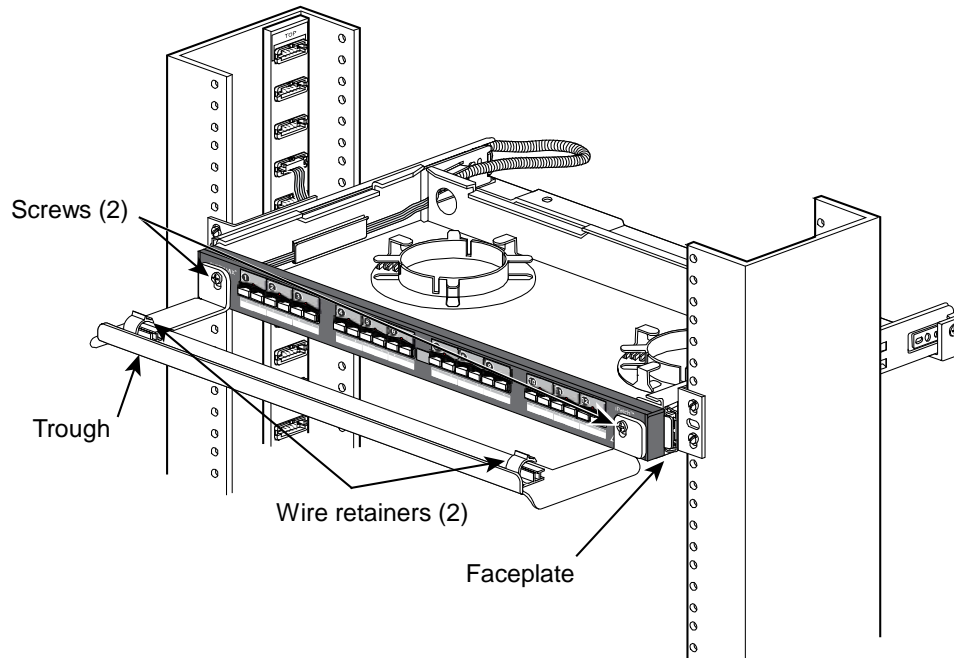

Figure 5 Installing the Trough on the Shelf
1. Loosen the two #8-32 x 3/4 inch screws holding the faceplate on the shelf (Figure 5).
2. Position the trough over the faceplate and tighten the two screws (Figure 5).
3. Install an adhesive-backed wire retainer (provided) on each end of the trough as shown in Figure 5.